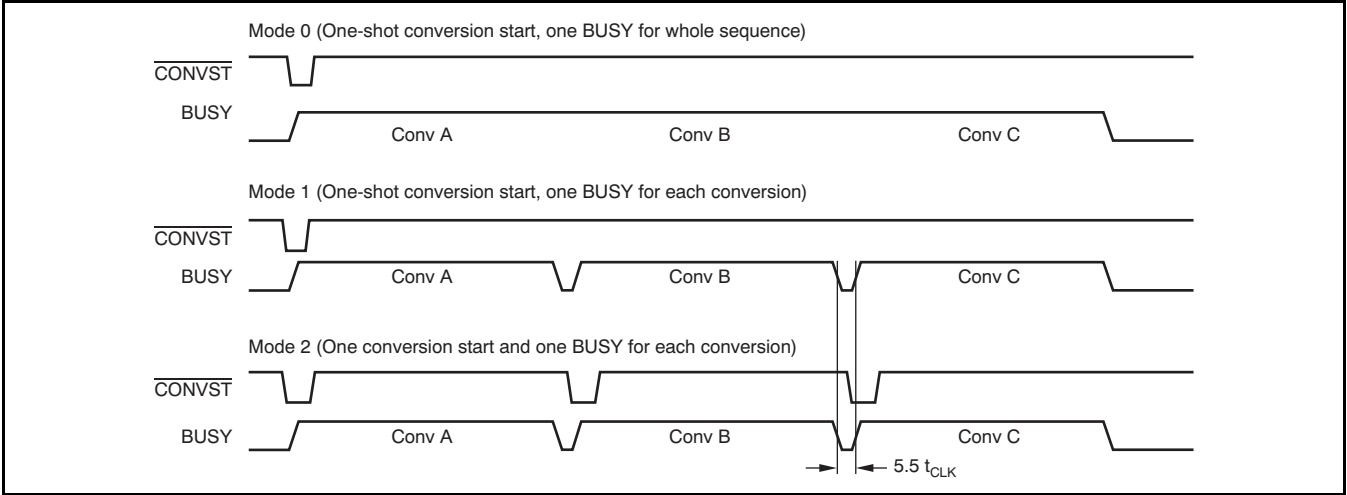

Figure 33. Sequencer Modes (Example: SL = '11')
Detailed timing diagrams of the different sequencer modes are shown in Figure 33.
- Updated Figure 33 **20**